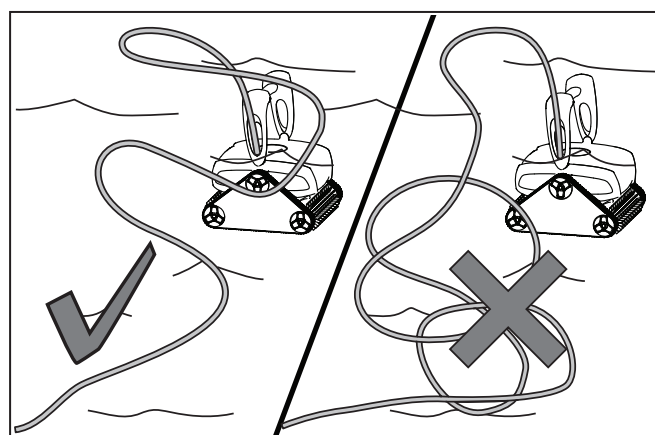

Figure 13. Spread Floating Cable Over the Pool
4. Spread the floating cable over the pool, making sure there are no kinks or coils in the cable. Allow enough floating cable for the cleaner to reach the farthest point of the pool (Figure 13).